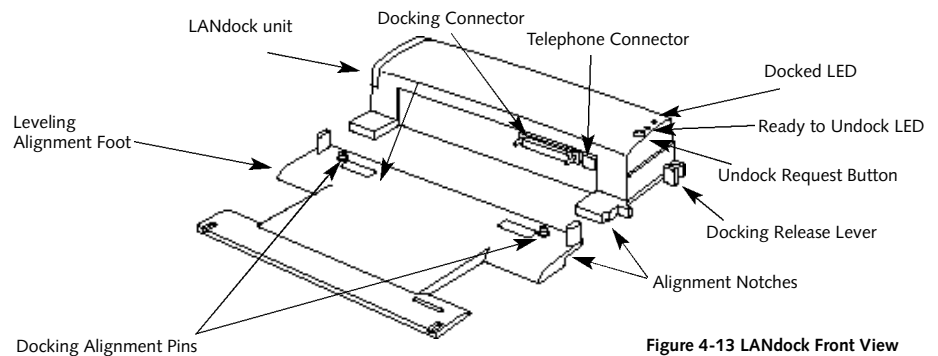

Figure 4-13 LANdock Front View
6. Set your notebook on the Docking Station Leveler, making sure that the Alignment pins on the leveler (Figures 4-13 and 4-16) fit into the Docking Alignment receptacles in the bottom of your notebook (Figure 1-10 on page 9).
10. Verify that docking is complete by checking that the LifeBook Docked LED is illuminated. (See Figures 4-13 and 4-16.)